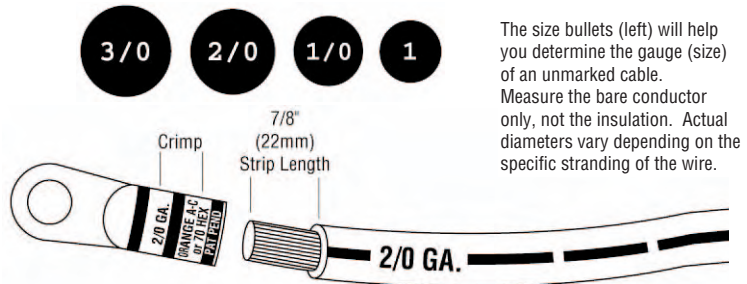

Fig. 1
7. Slide the handle grip onto and away from the end. Strip 7/8" to 1" (22 - 25 mm) of insulation from end of cable. Insert bared wires into barrel of lug. Crimp lug on to cable. Use two crimps on barrel for best connection. See Figure 1.